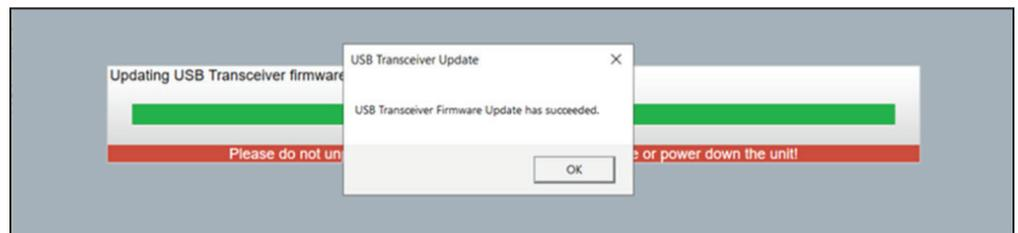

Figure 10. The USB transceiver firmware update success message.
STEP 4. When the update is complete, a dialog box will appear displaying a success message. Click on the **OK** button. See Figure 10.